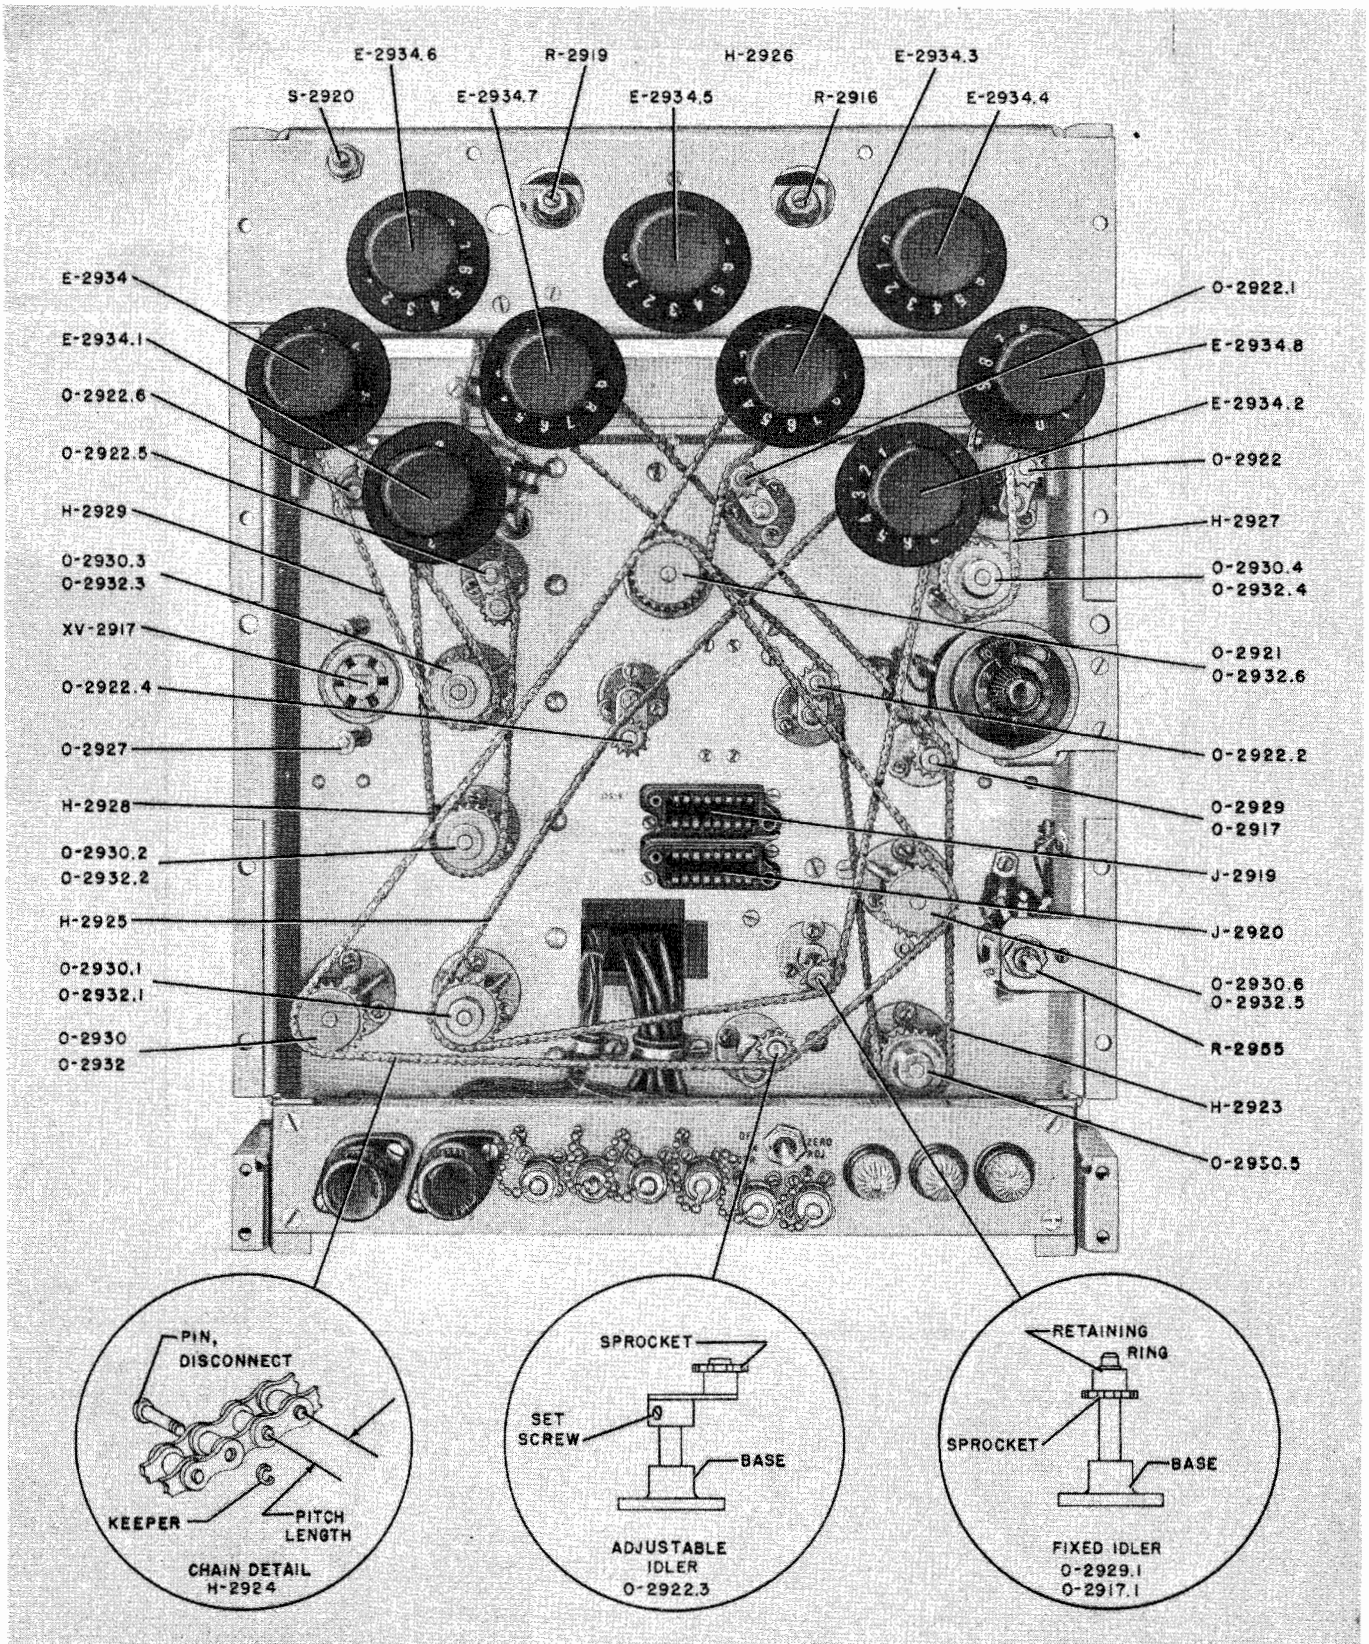

Figure 7-10. Radio Frequency Oscillator O-275/SRT, Front Panel Removed, Chain Drives
To remove a chain (figure 7-10) perform the following steps:
a. **ADJUSTABLE IDLER O-2922.** (See figure 7-10.)—Loosen the two setscrews on the associated idler arm.
c. **FIXED IDLER O-2929 AND O-2917.** (See figure 7-10.)—Remove retaining ring and slide idler sprocket from its shaft.
Step 1. Assemble chain (figure 7-10) and refer to Parts Lists, Section 8, for proper amount of links for individual chains.